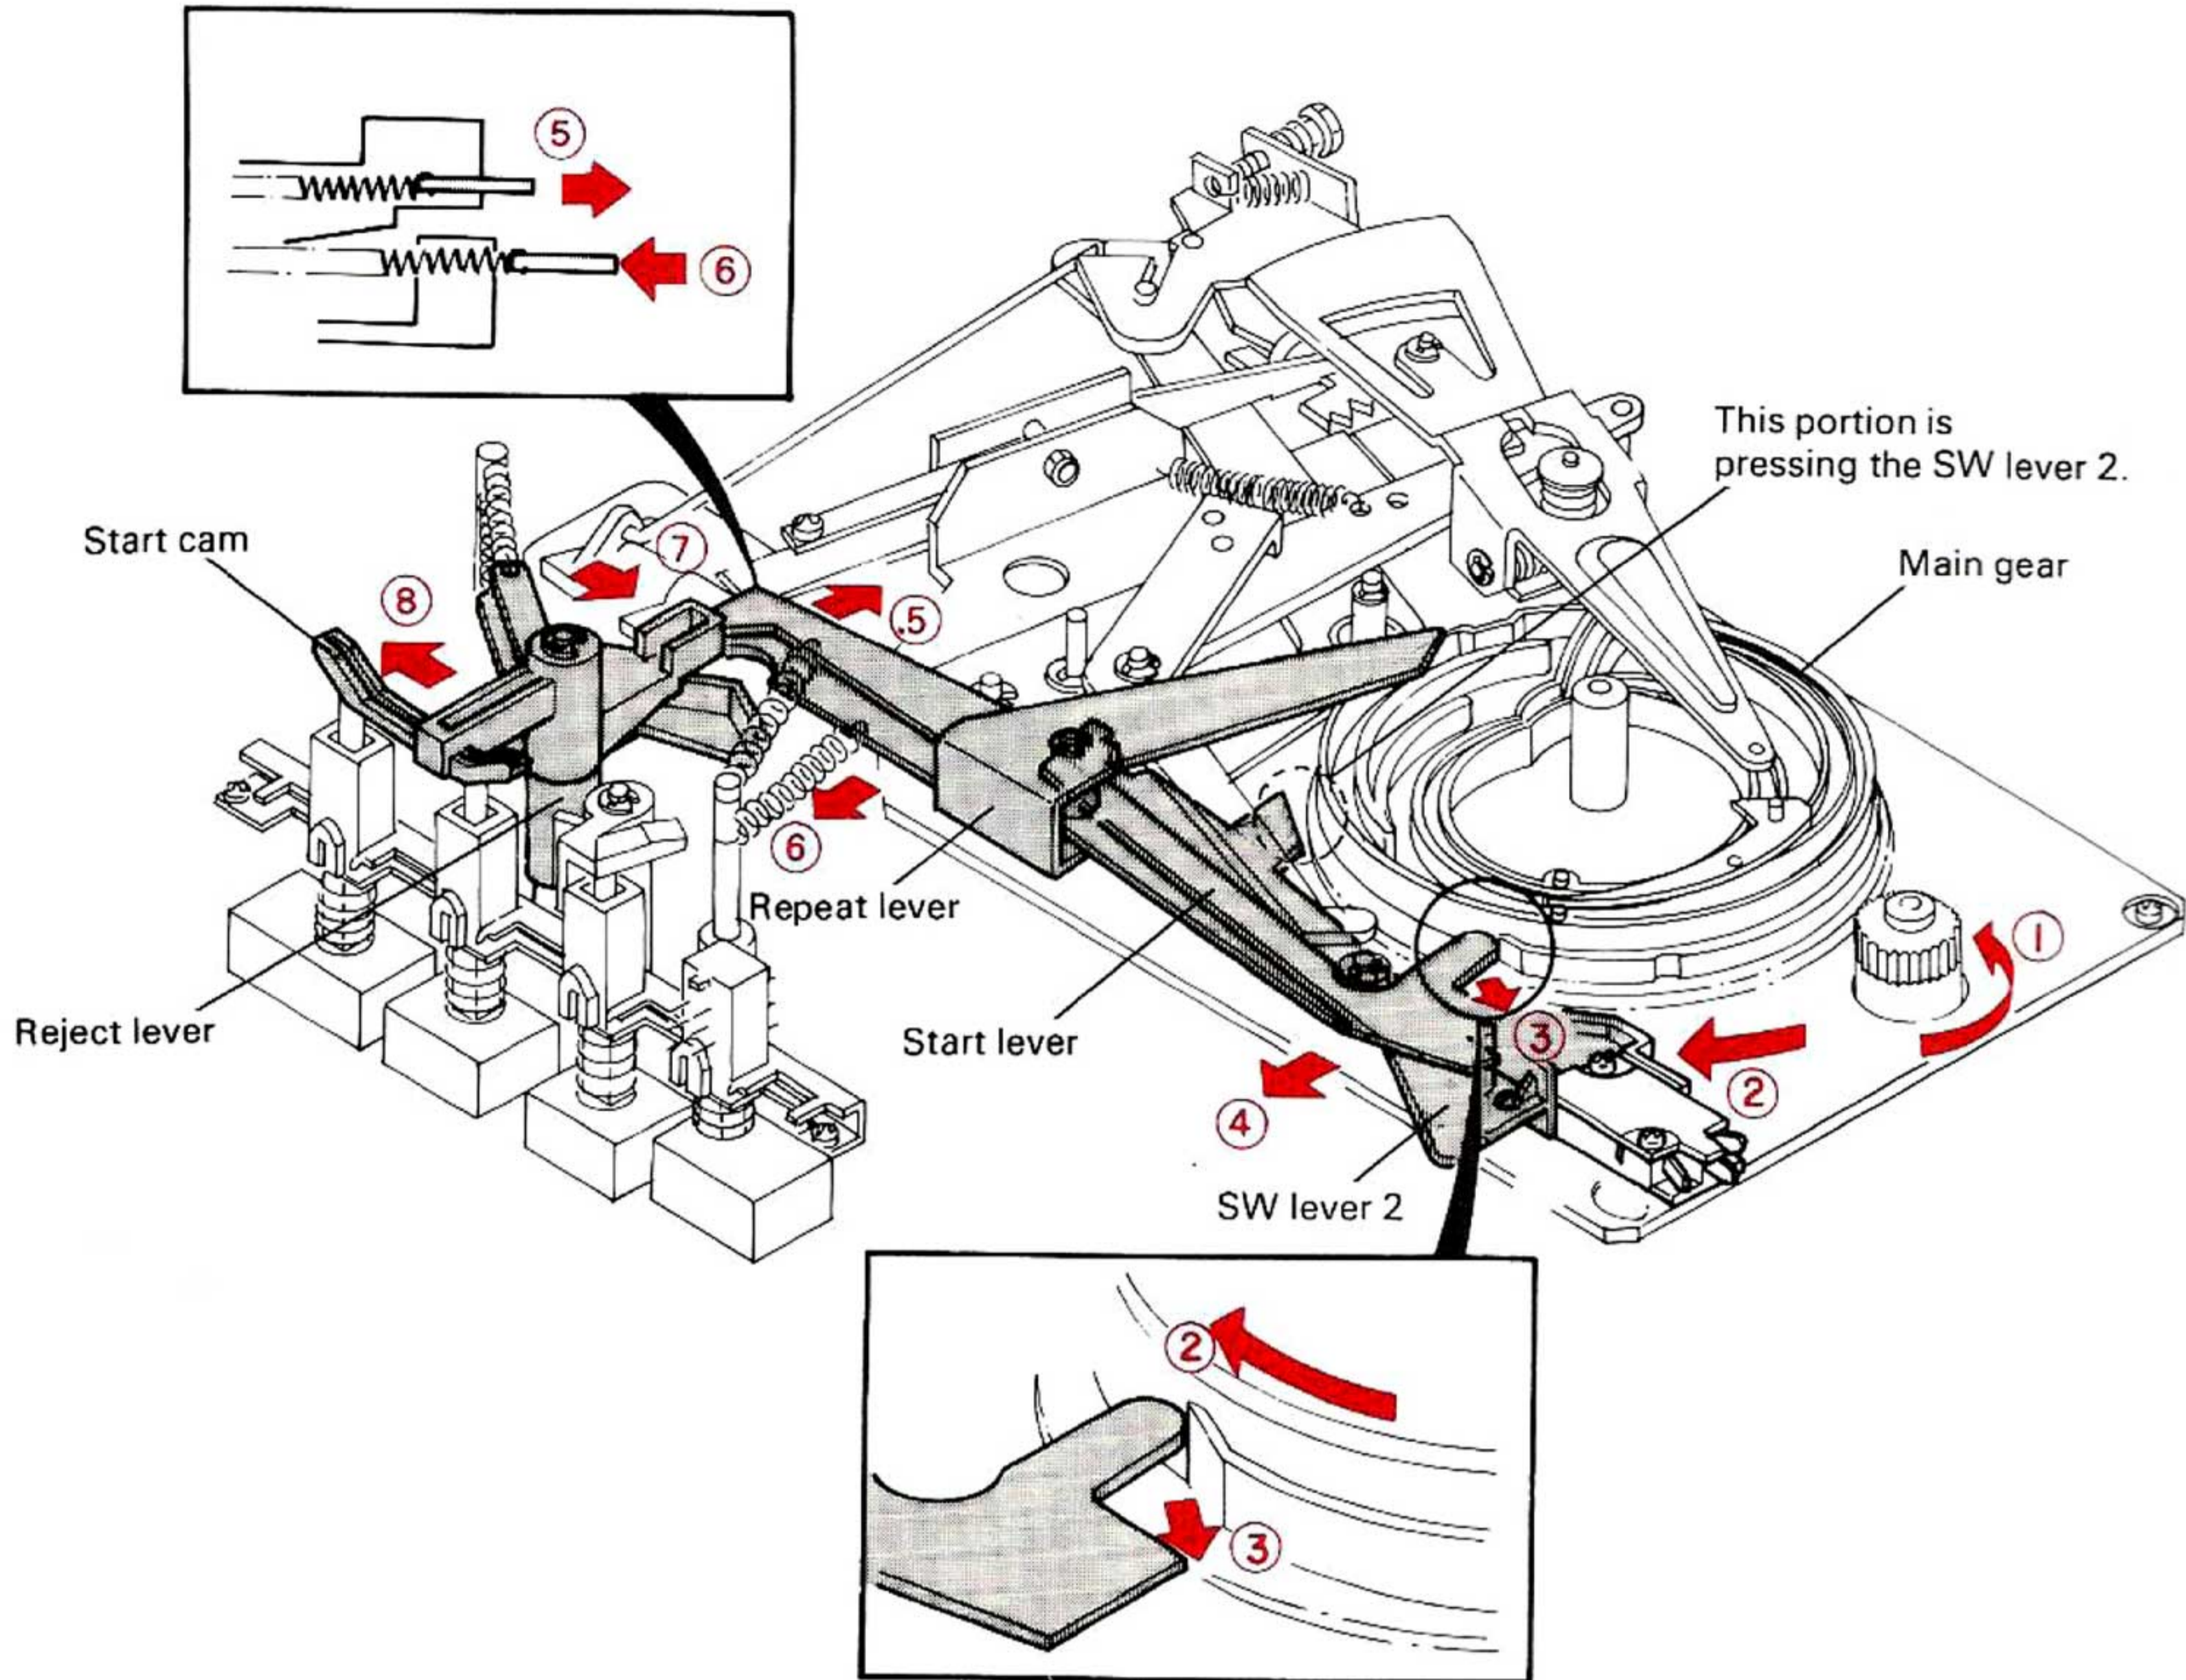
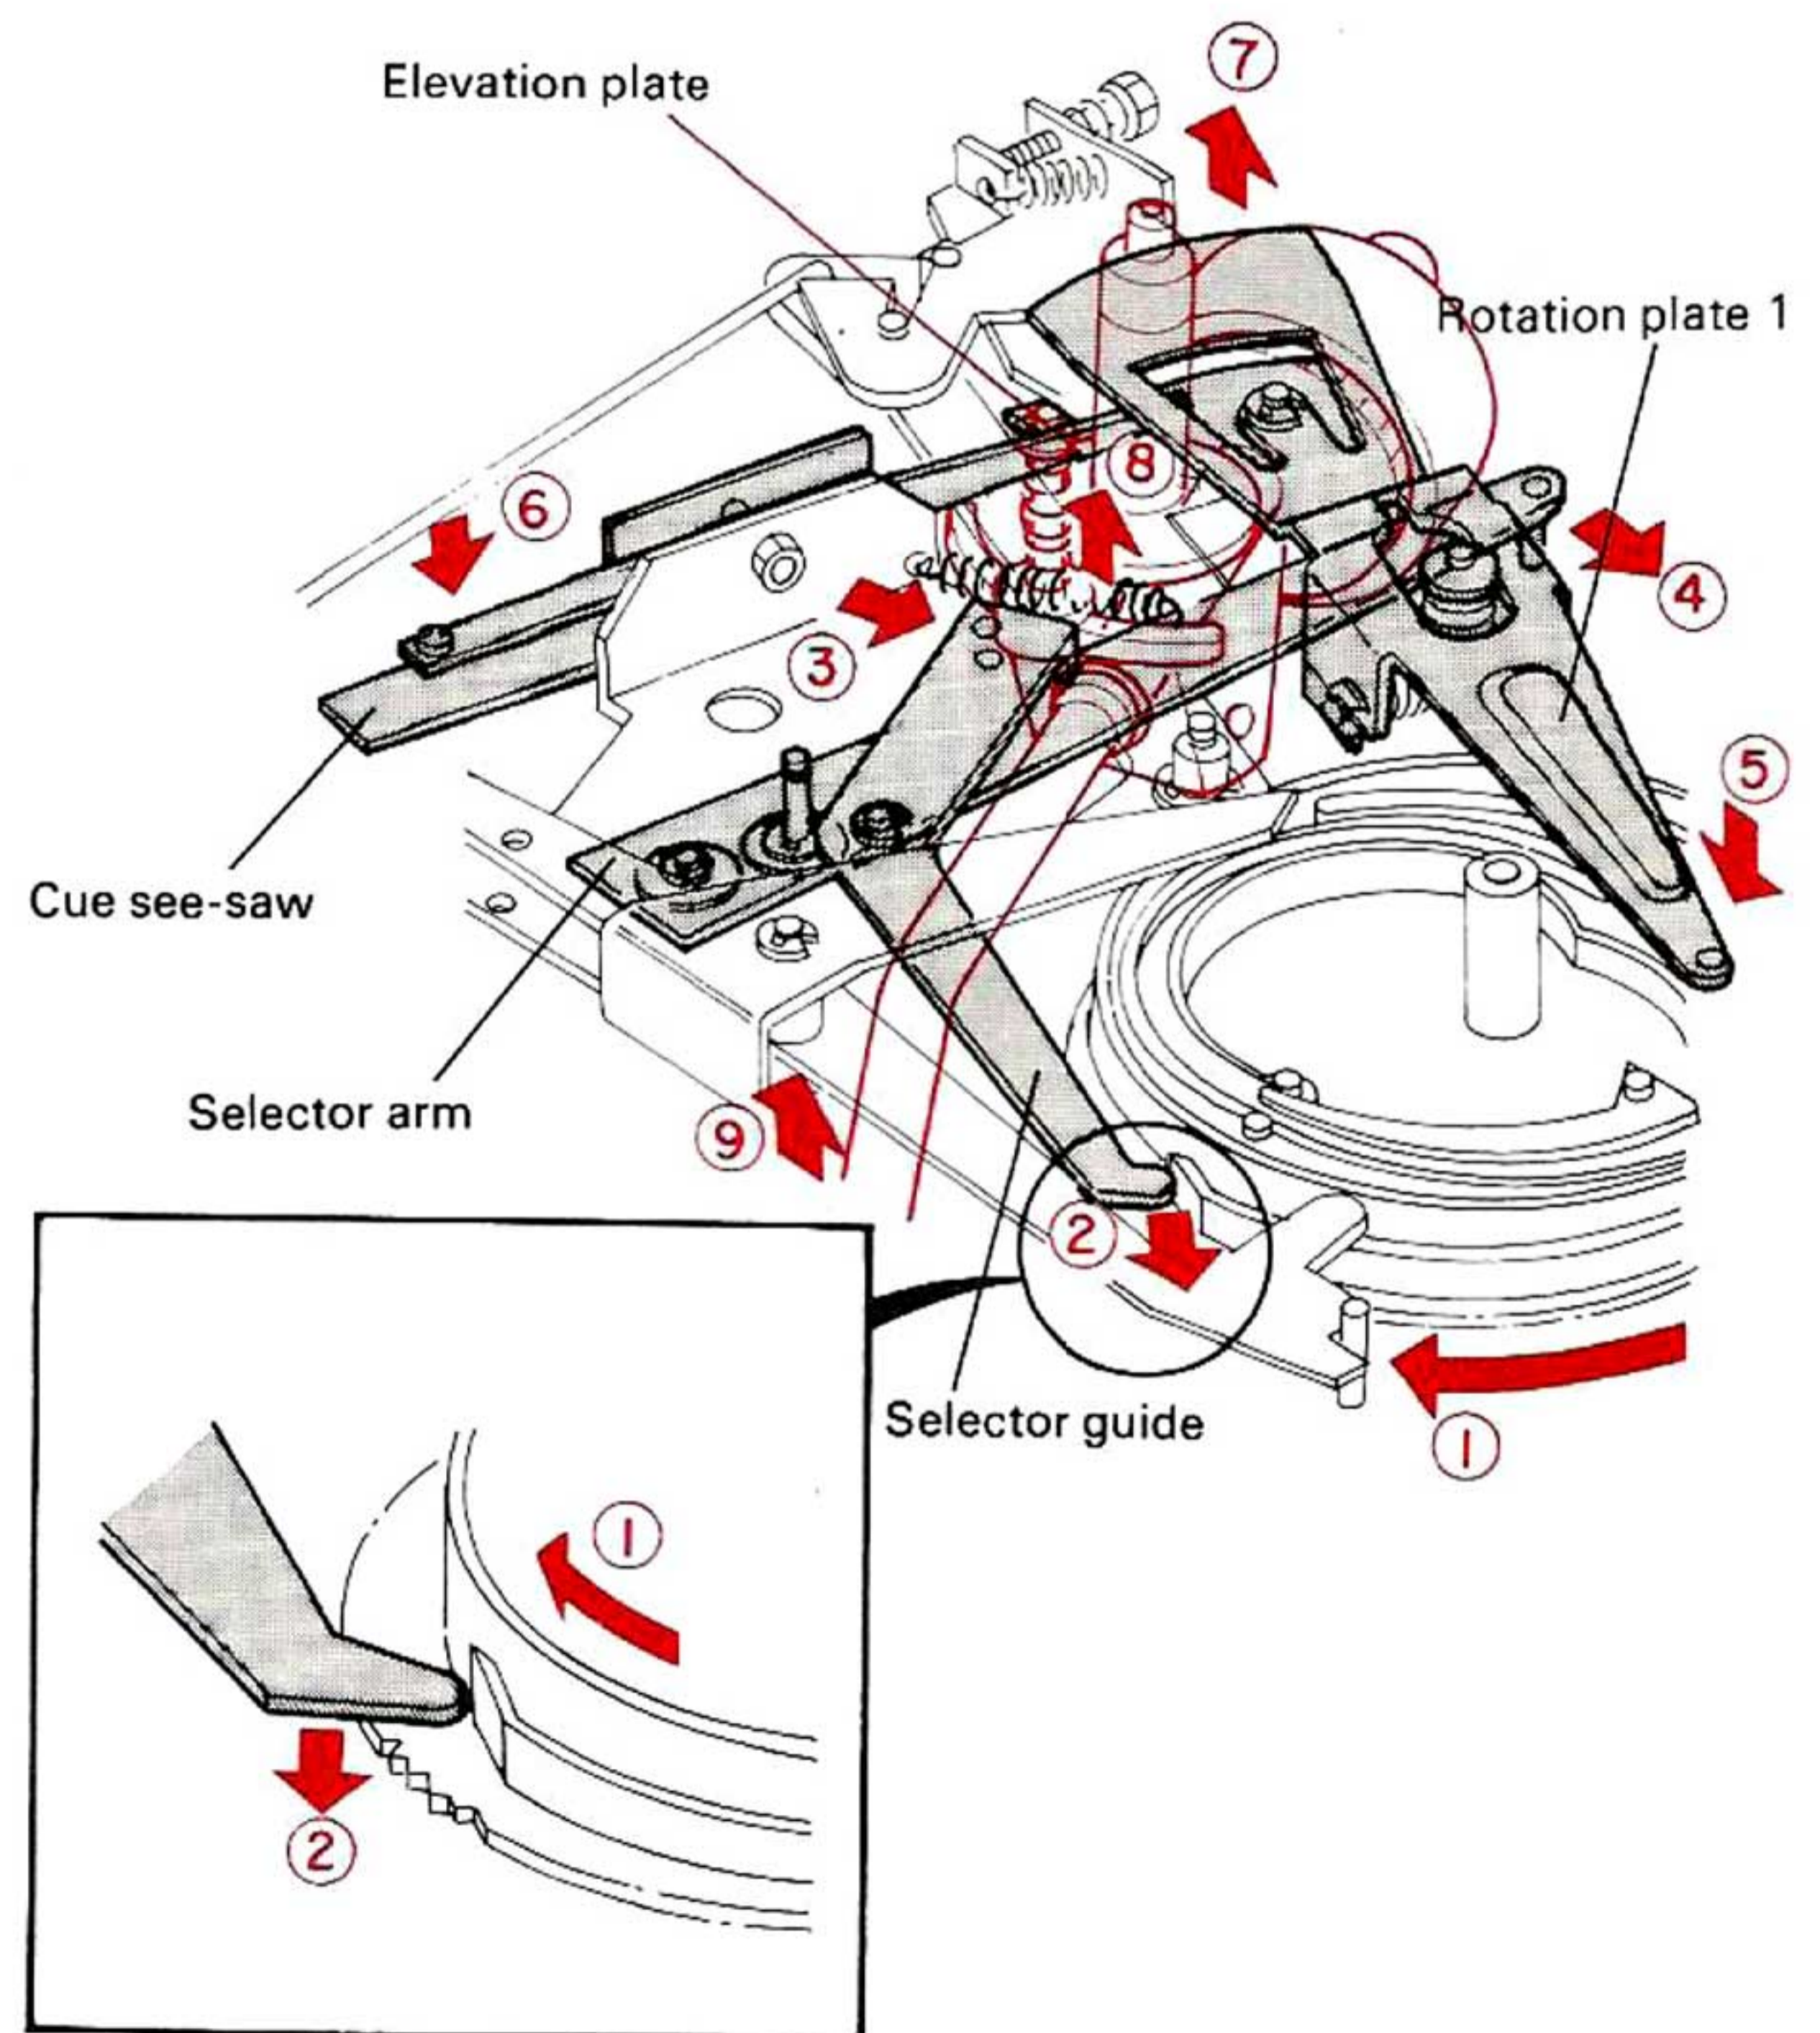

Fig. 7 Return of Start lever, Start cam and Reject cam
Fig. 8 Lowering of Tonearm and Return of Selector guide and Selector arm
When the main gear rotates further in direction ②, the outermost end of the main gear presses the start lever in direction ③ and the start lever turns in directions ④ and ⑤. As a result, the start cam is released and turned in directions ⑦ and ⑧ by the spring and the repeat lever moves in direction ⑥ to return the reject lever, start lever and repeat lever in their original positions (Fig. 7).
While the main gear is rotating, the SW lever is pushed outward by the part under the teeth of the main gear, so that the sensitive switch is kept turned ON even of the start lever moves in direction ④ (Fig. 7). When the outermost end of the main gear comes into contact with the selector guide, the selector guide is turned in directions ② and ③. Therefore, the selector arm is drawn in direction ④ to release the end of the selector arm from the travel base. As a result of this operation, the tonearm can move free from the mechanism (Fig. 8). As the groove of the main gear with which rotation plate is engaged becomes deep, rotation plate moves in direction ⑤. The cue see-saw moves in directions ⑥ and ⑦ under its own weight and the elevation plate which contacts the cue see-saw is lowered in direction ⑧, thus the tonearm descends in direction ⑨ (Fig. 8).